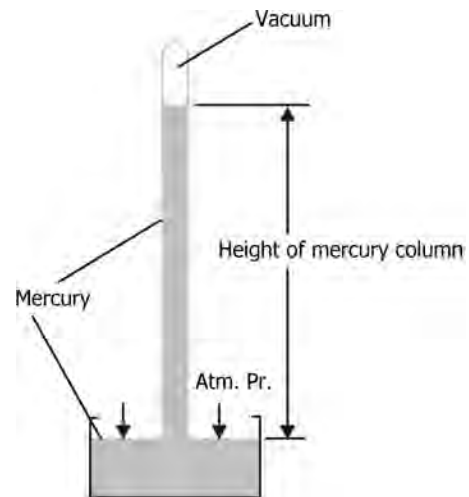

FIGURE 1.8 Mercury barometer.
- Figure 1.8 shows a barometer setup.